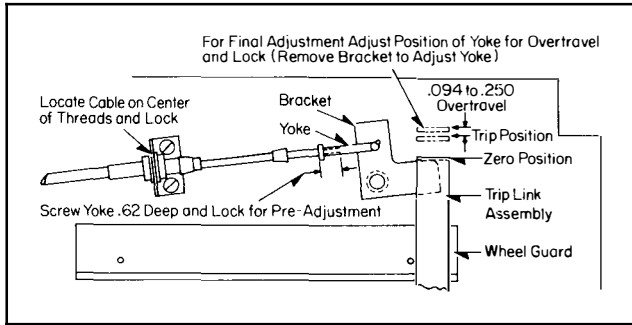

Fig. 1 Adjustment of Cable Interlock
1. Install cables per Figs. 1 and 2.
4. After installation of cables, install breakers in the drawout mechanism (refer to I.B. 15082, Section 1.3) and test the trip link assembly (Fig. 1) for trip position and overtravel, adjust mechanism if necessary. Then check operation of interlock as follows: